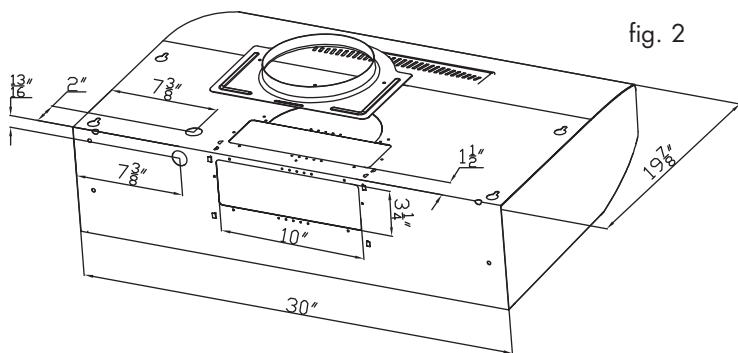

fig. 2
1. Determine the location of the electrical cable that will connect to the range hood (Fig.2). The preferred location for the electrical connector, vertical or horizontal, will depend on the existing installation or ease of routing wiring. All electrical connections must comply with local and national codes. Transfer the location of the selected range hood knockouts to the bottom of the cupboard or onto the wall, then cut or drill a hole to allow for clearance of the electrical cable clamp. Be careful not to cut into any hidden utilities, such as electrical wires.